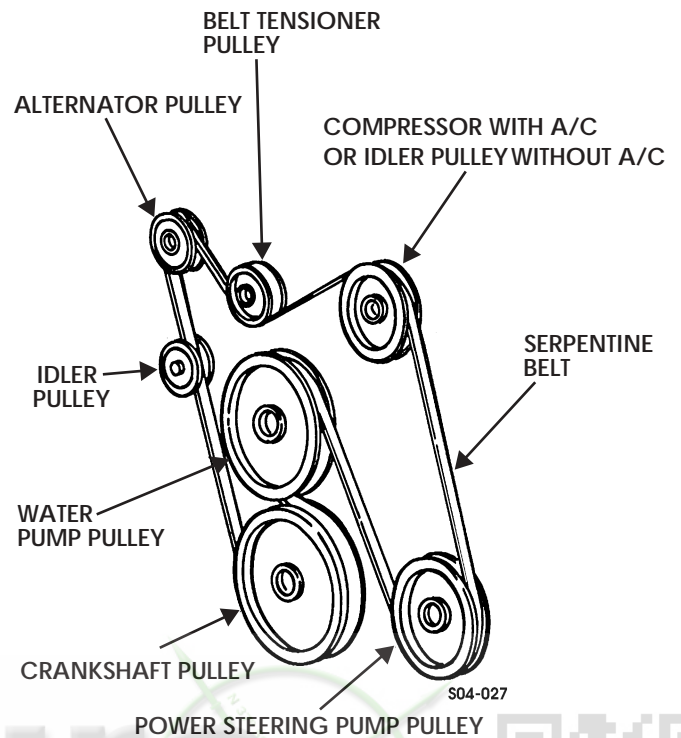
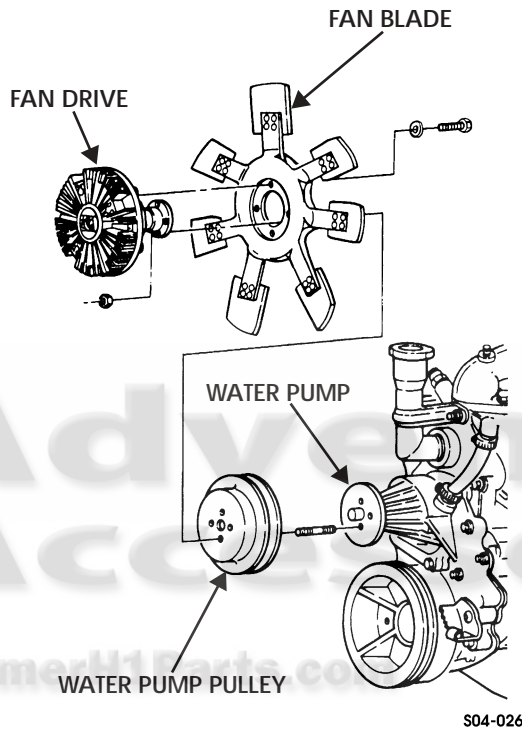

Figure 4-27: Belt Routing
Figure 4-28: Fan Drive, Fan Blade, and Water Pump Pulley
2. Remove belt from pulleys (Figure 4-27).
1. Position a half-inch drive breaker bar on belt tensioner and move tensioner counterclockwise and position serpentine belt on pulleys as shown (Figure 4-27) and (Figure 4-28).
4. Remove four nuts, fan drive, fan blade, and water pump pulley from water pump (Figure 4-28).
Inspect fan blade for cracks, bent blades, or breaks (Figure 4-28).
- capscrews. Tighten capscrews to 45 lb-ft (61 N•m) (Figure 4-28).